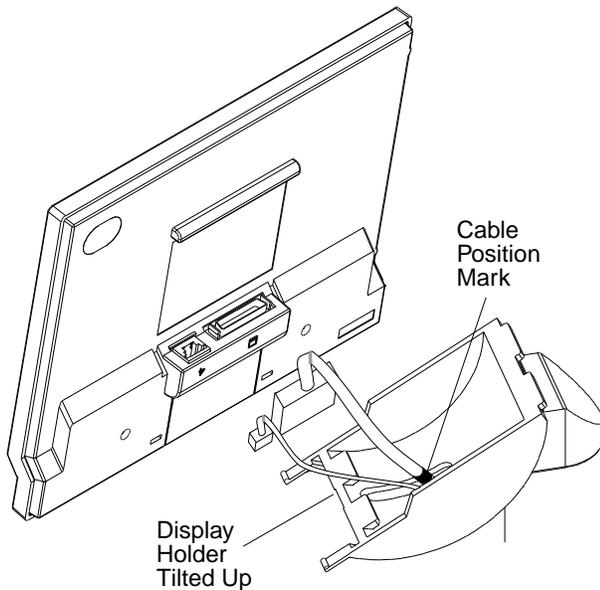

Figure 1-2. Display Holder Tilted Up
- 2 Attach the display to the display holder. See Figure 1-2.